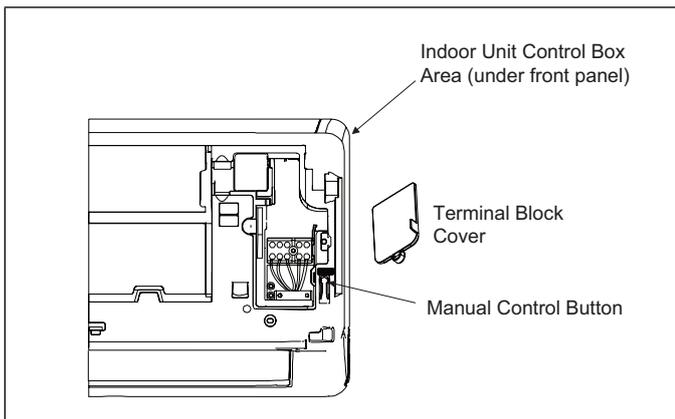

Figure 33. Manual Control Button
2. The MANUAL CONTROL button is located on the right-hand side of the unit. Press it two times to select the COOL function. See “Figure 33. Manual Control Button”.